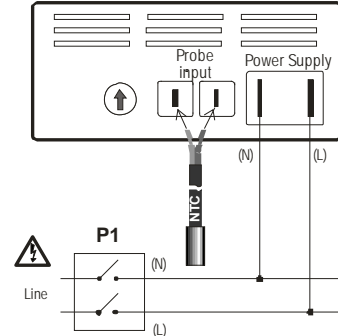

Fig.1
3. INSTALLATION - 230V OR 115V VERSION (FIG.1)
- ⚠ **Disconnect the power supply from the board by means of a panel switch, not supplied, (P1 in Fig.1).**
- If possible, the manufacturer suggests connecting the phase (L) to the fast-on on the right and neutral (N) to the fast-on on the left as indicated.
5. DISCONNECTION AND PROBE SUBSTITUTION (FIG.1)
- ⚠ **Disconnect the power supply on the board where the instrument is positioned, by means of the panel switch (P1 in Fig.1)**